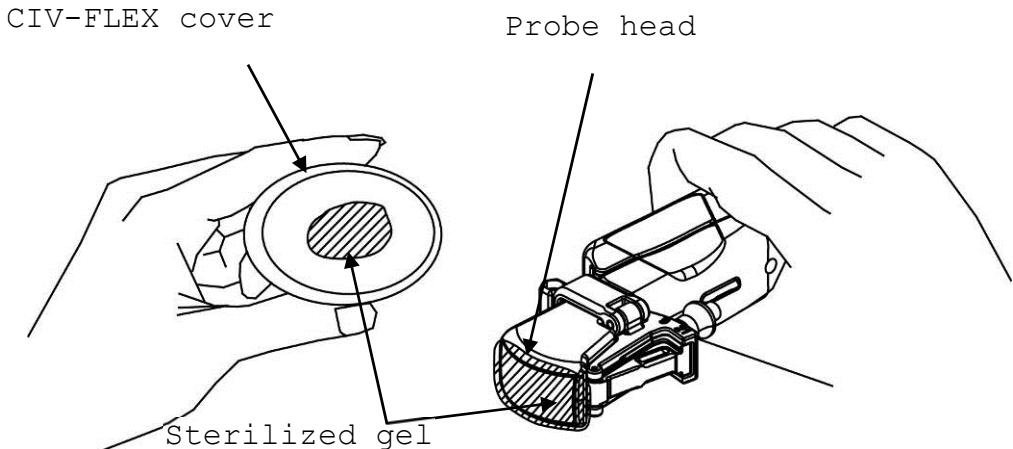

Fig. 13 Placing the gel
- 1) Place an appropriate amount of gel inside the cover and/or on the Probe head. (See Fig. 13)